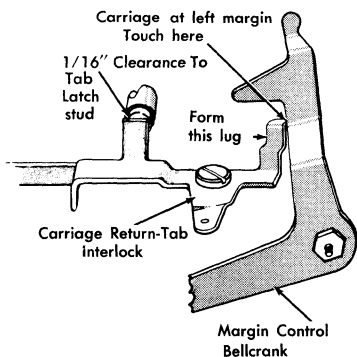

Figure 28. Carriage Return-Tab Interlock Adjustment
c. With the carriage at the left margin, form the interlock so that it clears the tab latch stud by about $\frac{1}{16}$ " when the left-hand lug on the interlock is in contact with the margin control bellcrank (Figure 28).